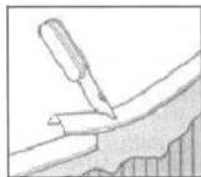

fig. 21 Cut extra length
- b) When all copings are installed, mark with felt pen the overlapping part, remove the coping and trim the extra length so there is no overlap (fig. 21). Be careful to not damage the liner when cutting the coping. Install the last plastic coping again.